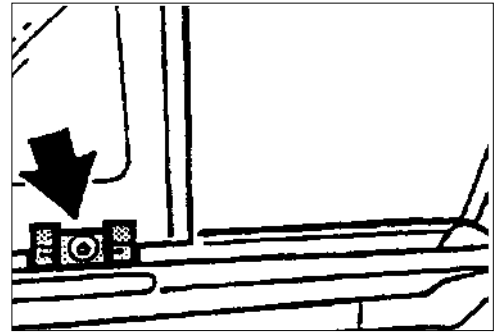

Figure 16
- Open glass roof approx. 250mm. Remove front axle plate (Figure 16, arrow).